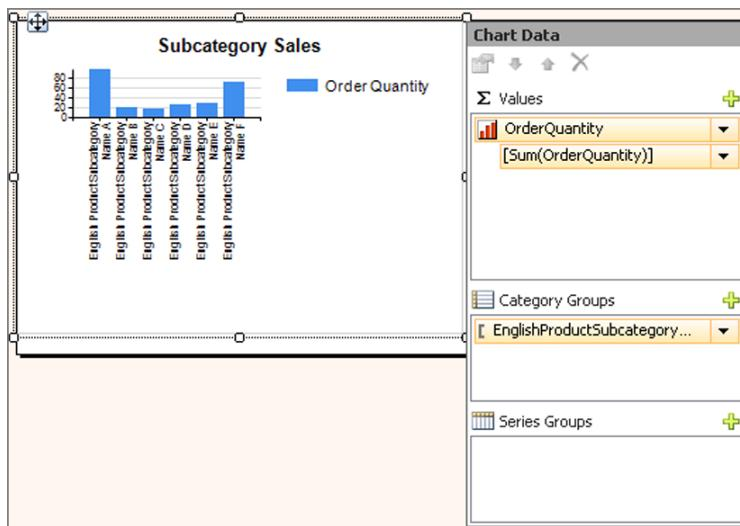

Figure 5-20
3. From the SubcategorySales dataset bring the EnglishProductSubcategoryName field to the Category Group of the chart. Then from the same dataset bring the OrderQuantity field to the Values section of the chart. Figure 5-20 shows this step.